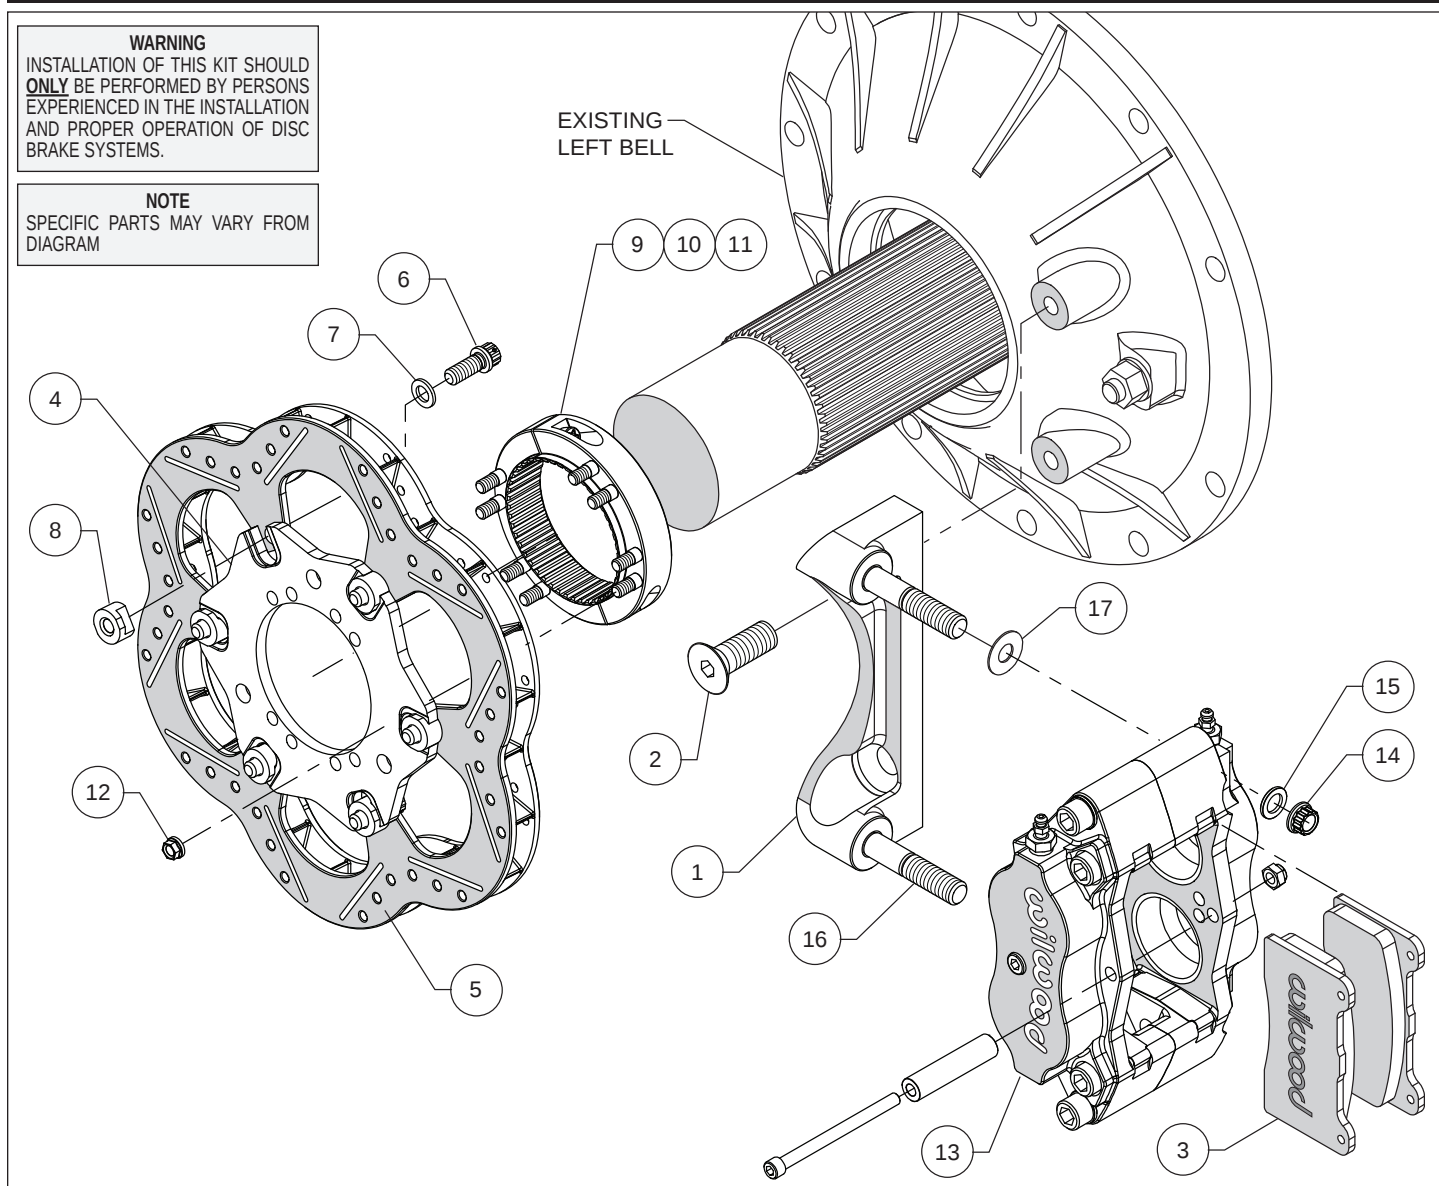

Figure 1. Typical Installation Configuration
• Orient the bracket (1) as shown in Figure 1 and install using bolts (2). Temporarily tighten bolts. **NOTE:** Bracket must fit squarely against the mounting bosses on the bell. Inspect for interference from casting irregularities, machining ridges, burrs, etc. Remove the bracket mounting bolts one at a time, apply red Loctite® 271 to the threads, and torque to 47 ft-lbs.
• With the T-notches of the rotor adapter (4) facing away from the rotor (5), attach adapter to rotor using bolts (6), washers (7) and t-nuts (8) as shown in Figure 1. Apply red Loctite® 271 to the bolt threads before installing. Finger tighten. After all t-nuts have been installed, torque bolts in an alternating sequence to 220 **in-lbs**. Please refer to Wilwood's data sheet DS-669 (available at [www.wilwood.com/Pdf/DataSheets/ds669.pdf](http://www.wilwood.com/Pdf/DataSheets/ds669.pdf)) for complete t-nut bolt kit installation instructions.
• Orient the axle clamp assembly (9, 10 and 11, pre-assembled) as shown in Figure 1 and install onto the rotor adapter (4) using nuts (12). Tighten nuts part way while still allowing clamp-to-rotor movement. The nuts will be torqued later, after aligning the rotor. **NOTE:** The axle clamp should be positioned inside of the rotor as shown in Figure 1, not offset, or outside of the rotor adapter.
- Lubricate caliper mounting studs (16) with lightweight oil. Initially place two shims (17) on each stud as shown in Figure 1. Mount the caliper (13) onto the bracket (1) using washers (15) and lock nuts (14), Figure 1. Temporarily tighten the lock nuts and view the rotor through the top opening of the caliper. The rotor should be centered in the caliper. If not, slide the rotor/adaptor assembly on the axle until the rotor is centered in the caliper. Tighten the clamp bolts (11) first, locking the clamp to the axle. Torque nuts (12) to 140 in-lbs.
- Remove the caliper center bridge pad retainer bolt, nut, and tube from the caliper. Insert the brake pads (3) into the caliper, with the friction material facing the rotor. Check that the top of the brake pad is flush with the outside diameter of the rotor. If not, adjust by adding or subtracting shims (17) between the caliper and the bracket. After the caliper pad height is set, torque the caliper lock nuts (14) to 30 ft-lb. Secure the brake pads in place with the center bridge pad retainer tube, bolt, and locknut. The locknut should be snug without play in the bolt or tube. Be cautious not to over tighten.